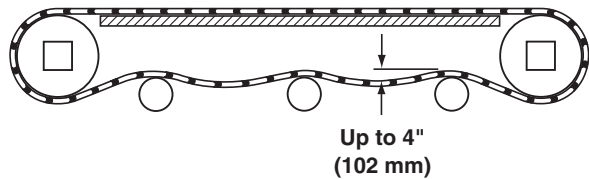

Figure 36
7. Check belt sag by measuring from the top of the return (Figure 36).